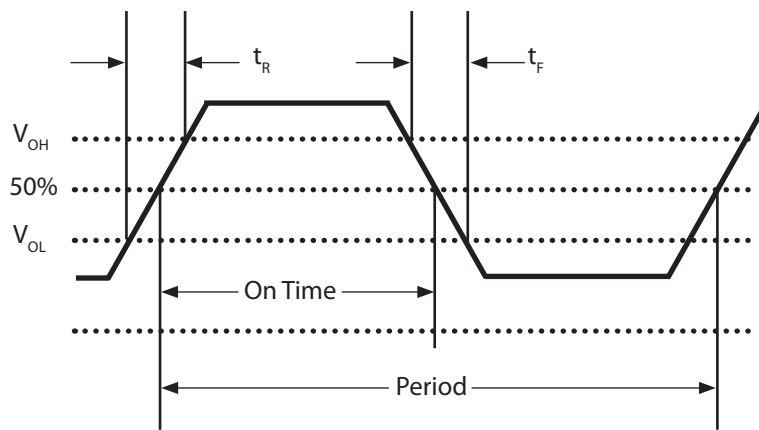

Figure 1
3. Figure 1 defines these parameters.